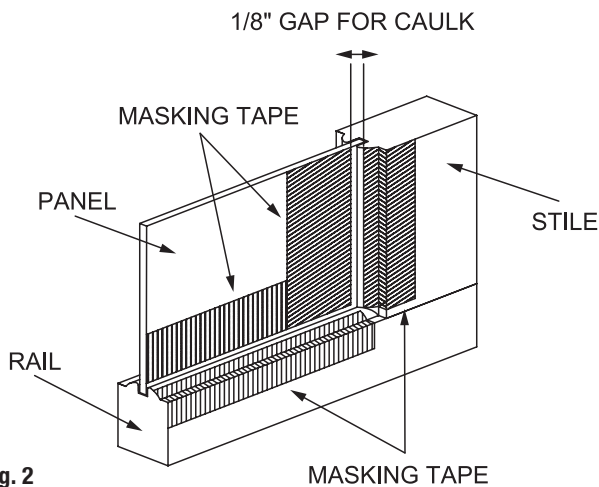

Fig. 2
- Use masking tape to avoid an uneven caulk line that could affect the appearance of the door. Prior to caulking, apply masking tape to both the panel and the stile or rail along the entire joint leaving a gap of 1/8". Then fill the gap along the joint with a bead of caulk, smoothing with a finger. Remove the tape (Fig. 2).